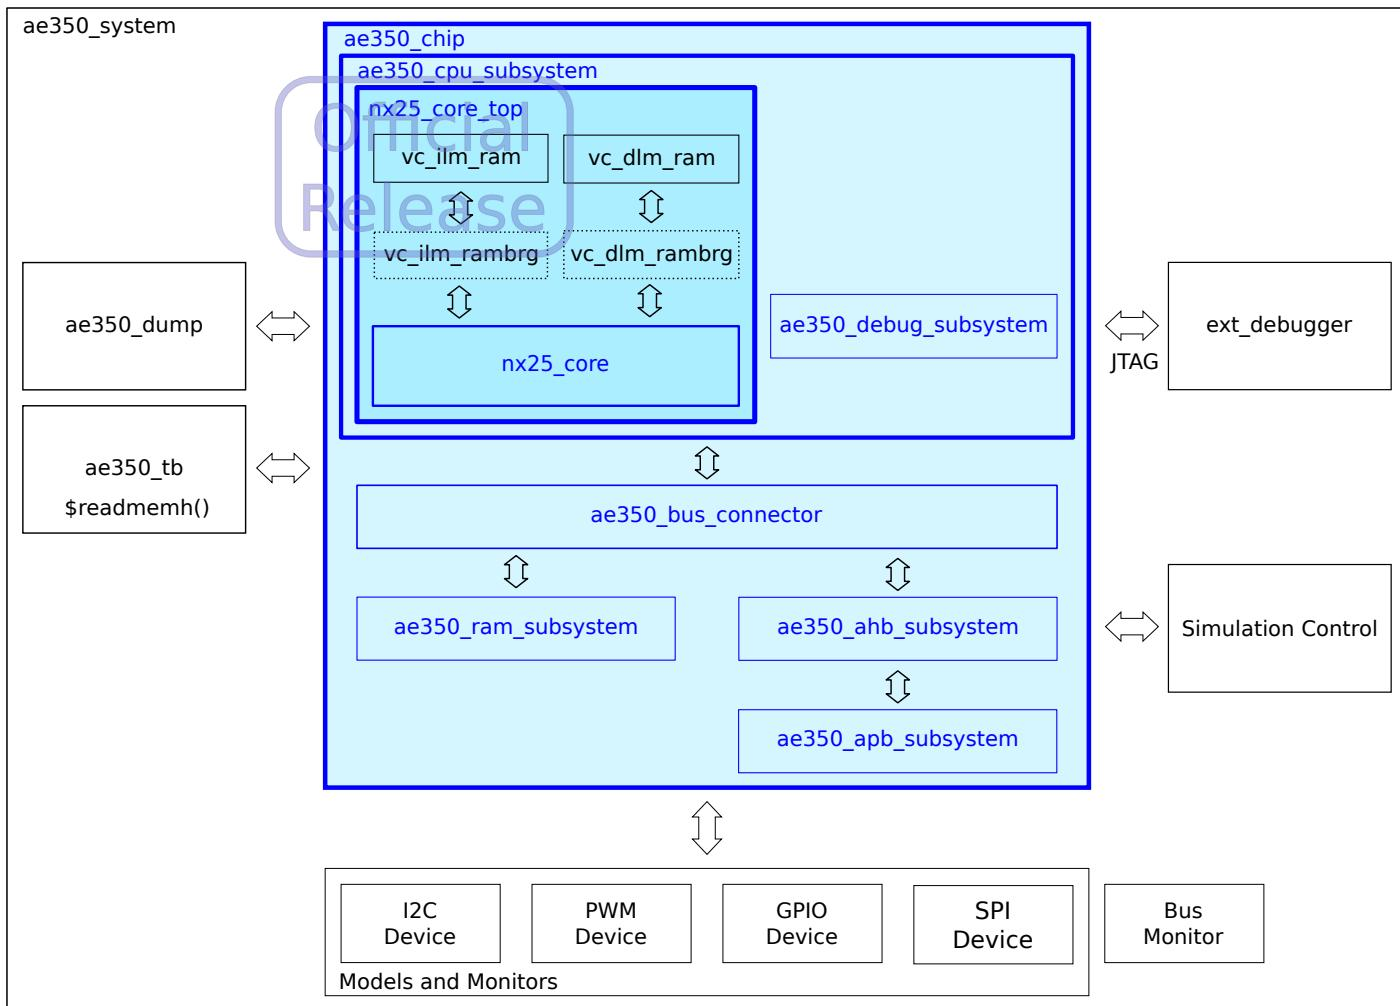

Figure 27: NX25(F) Simulation Environment
Figure 27 shows the block diagram of the NX25(F) simulation environment on the AE350 platform. The **nx25_core** module in the block diagram is the NX25(F) core. The **ae350_tb** module provides the clock sources and the reset sequences. It also loads the ROM image (**NDSROM.dat**) of the test case to ILM, **ae350_ram_subsystem** and the SPI device. The simulation control module (**ahb_sim_control**) is connected to **ae350_bus_connector** and is responsible mainly for the termination of simulations. The **ae350_dump** module controls the waveform dumping. The **ext_debugger** module simulates external debugger activities and interfaces with the RISC-V debug subsystem within the **ae350_chip** module.